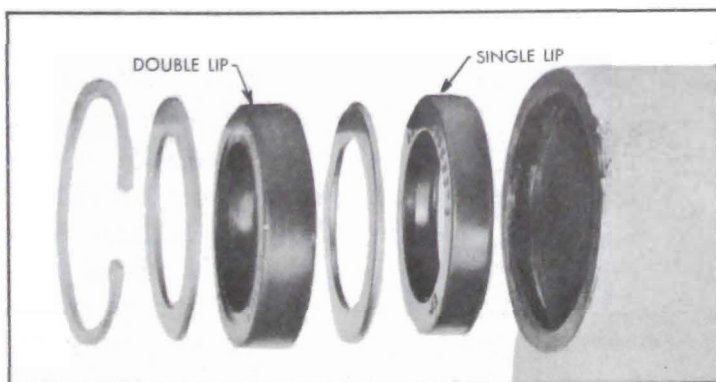

Figure 8-24—Pitman Shaft Seal Assembly
4. Lubricate the seals thoroughly with petroleum jelly and install as per paragraph 8-12 step 7. See Figure 8-24.